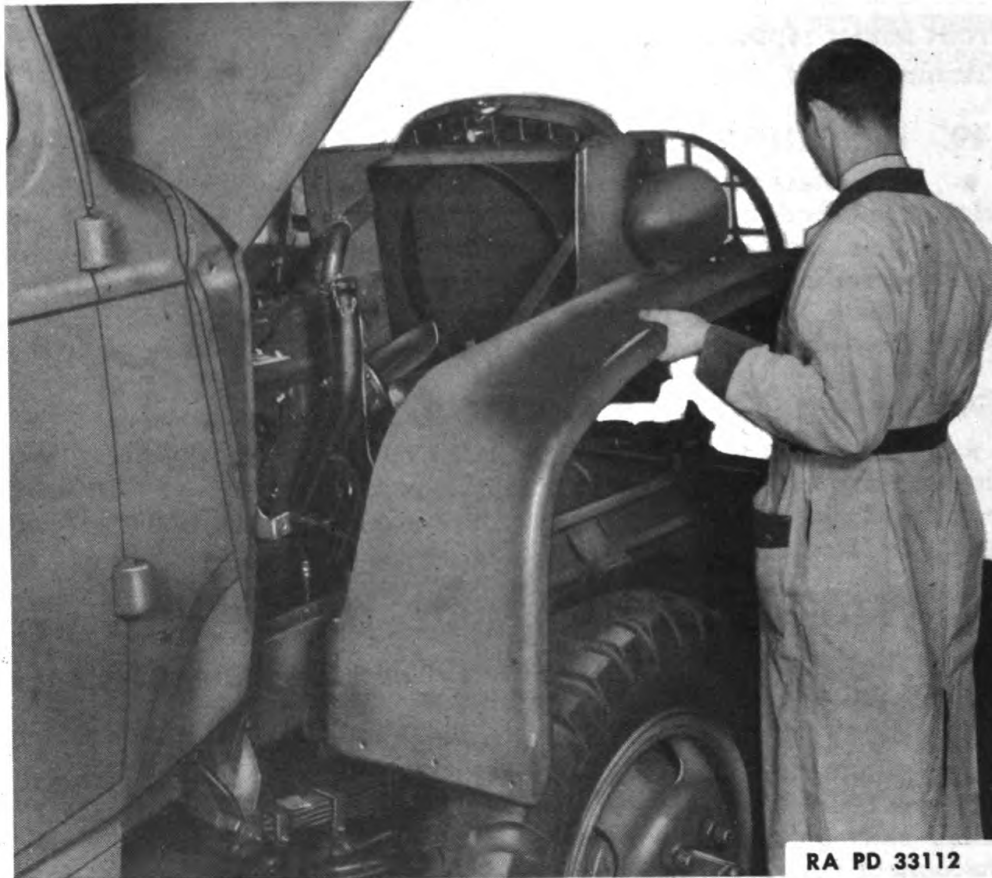

Figure 118—Front-end Sheet Metal Removal
d. **Remove Sheet Metal Assembly.** Remove the fender to running board and fender to cowl bolts on each side. Remove the bolts attaching rear end of radiator diagonal support to cab bracket. Remove the nuts from lower radiator anchorage to frame cross member bolts and remove the washers, springs, and bolts. Remove the fan blades if the vehicle is equipped with a front-mounted winch. Slide the front end sheet metal assembly forward until the fan shroud clears the fan or fan hub, and lift the assembly off chassis (fig. 118). If any of the individual items of this assembly require repairs or replacement they can be removed from the assembly very easily.